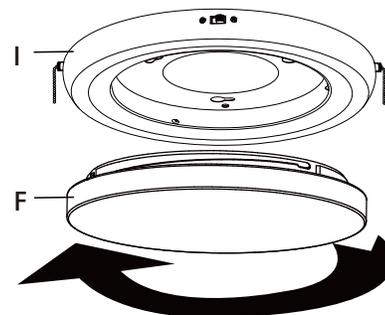

Figure 14
- Install the lamp shade (F) onto the light kit (I) by gently twisting clockwise and locking into position. (Figure 14)